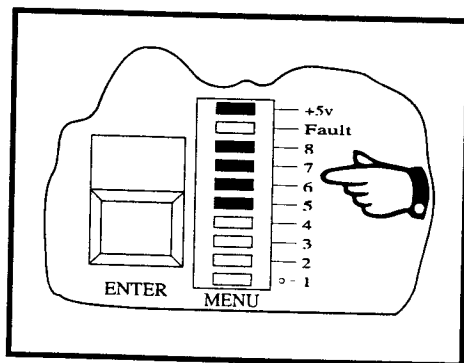

Figure 3-13
Should the accumulated correction exceed the maximum correction programmed into the instrument, the Model 300 will activate its fault/status relay providing a remote indication, while the **Menu** display on the CPU card will cease scrolling and display the auto-zero fault indication. See Figure 3-13.
- (b) If a current auto-zero fault condition exists, the contacts of the status relay output on the Power Supply card should be open circuit and the **Menu** display should cease scrolling and the segments labelled **8, 7, 6** and **5** should be illuminated simultaneously. See Figure 3-13.